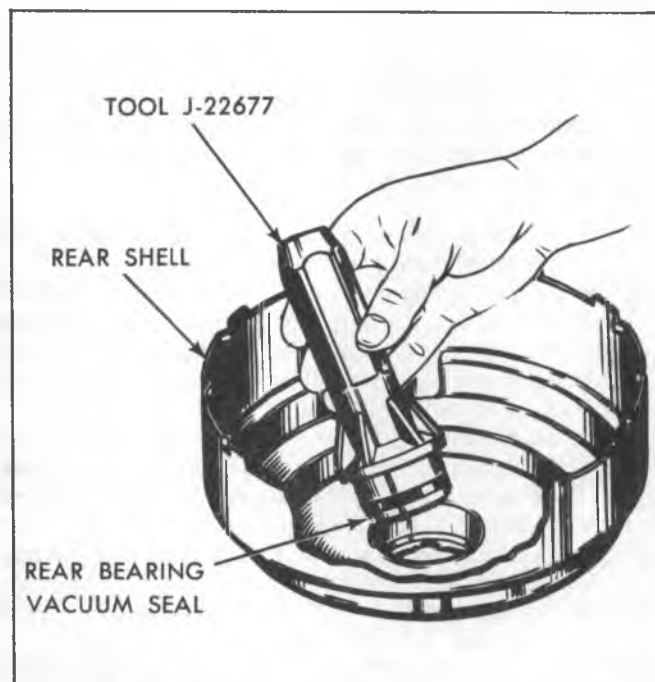

Fig. 8C-Installing Rear Bushing Vacuum Seal
20. If rear bearing vacuum seal was removed, use Bearing Seal Installer J-22677, to press new seal into rear shell until flat rubber is about 5/16" below flat inside surface of shell (fig. 8C).